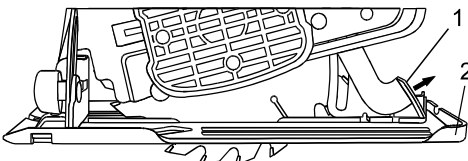

Fig. 5
1. Loosen the depth adjustment lever (1) by pulling it outward (Fig. 5).
2. Pull the sole plate (2) downward until the correct amount of the blade is protruding below the sole plate.